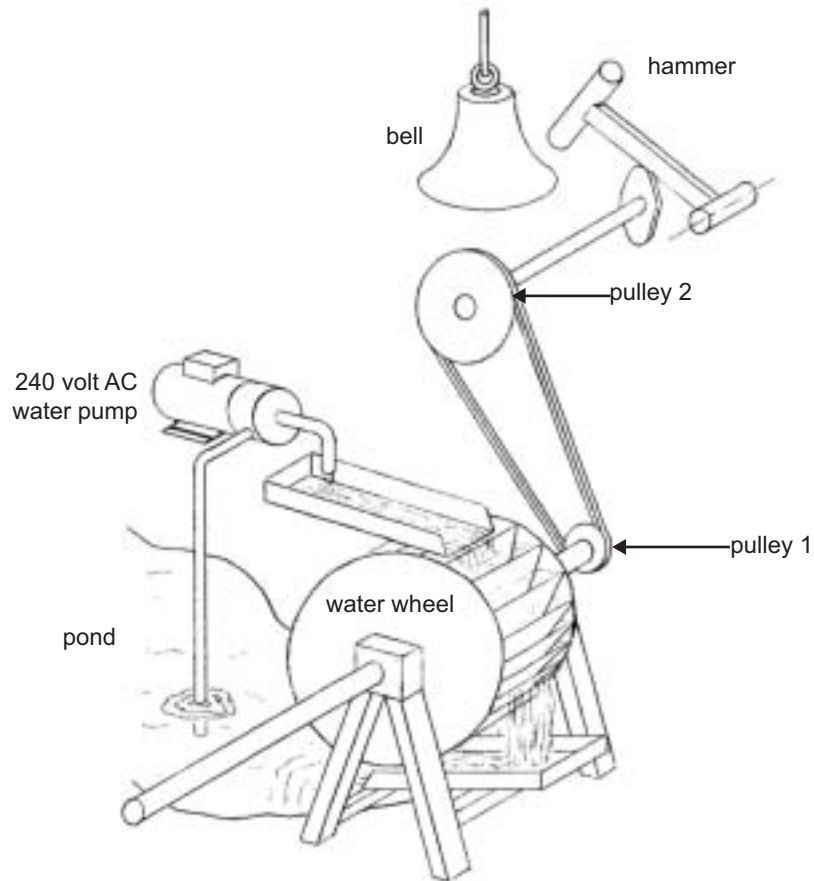

Figure 7
Both bell systems are driven by the pulley system shown in Figure 7.
- h.** The water wheel rotates at 60 rpm. Pulley 2 is required to rotate at 20 rpm. If the diameter of pulley 1 is 60 cm, calculate the diameter of pulley 2. Refer to Figure 7 and formula on page 19 when answering this question. Show all working.